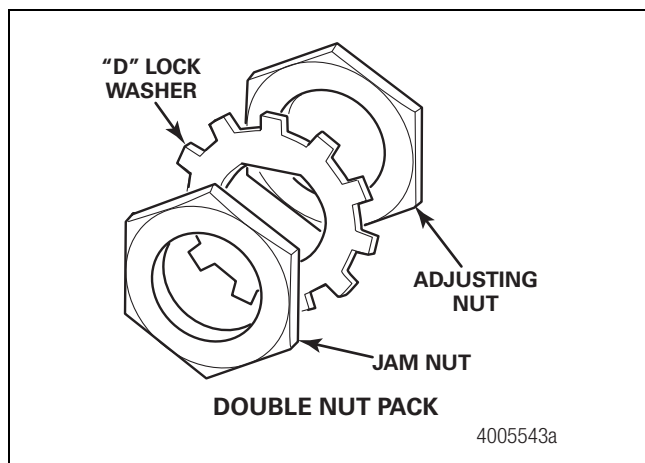

Figure 13.24
5. Use a 3.5-inch (89 mm) socket wrench to remove the jam nut, "D" lock washer and adjusting nut. Figure 13.24.